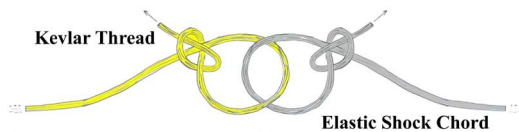

Figure 9
- **Step 19** Loosen the free end of the Kevlar thread and push the thread back through the motor mount, through the body tube, and out the top end. Tie a slip-knot loop in the free end, as close to the end of the thread as possible. Push one end of the elastic shock chord through this loop, as shown, and tie a slip-knot loop in it. See Fig. 9. Pull the two knots tightly together, and coat the knots with thinned glue. Allow to dry.